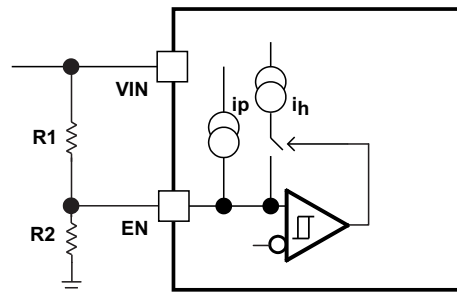
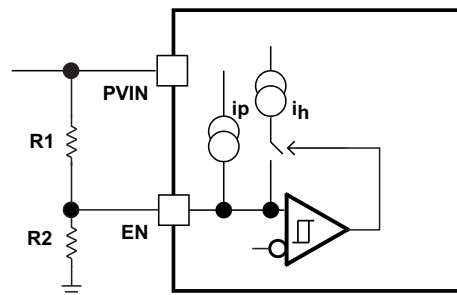
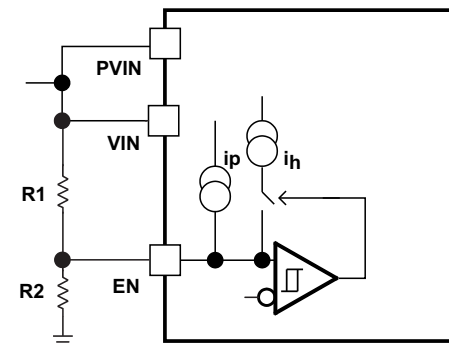

Figure 30. Adjustable VIN Under Voltage Lock Out
Figure 31. Adjustable PVIN Under Voltage Lock Out,  $V_{IN} \geq 4.5V$
Figure 32. Adjustable VIN and PVIN Under Voltage Lock Out
If an application requires either a higher UVLO threshold on the VIN pin, or a secondary UVLO on the PVIN pin in split-rail applications, then the EN pin can be configured as shown in Figure 30, Figure 31, or Figure 32. When using the external UVLO function, it is recommended to set the hysteresis to be greater than 500 mV.
• Deleted device name from <a href="#">Figure 30</a> , <a href="#">Figure 31</a> , and <a href="#">Figure 32</a> (typo) .....	<a href="#">18</a>